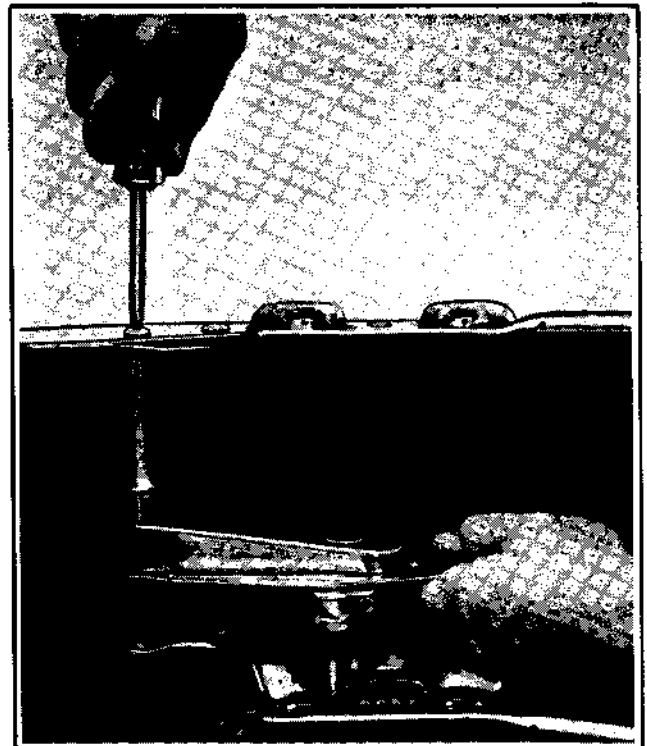

FIGURE 2. PROPER TORQUE METHOD FOR BRACKET MOUNTING SCREWS.
14. When installing new brackets from Kit on inside wall of fender, note that the left side bracket has a special tab for properly routing the brake line. Insert screw through fender and bracket from outside, apply Loctite (Red grade, Part No. 99626-77) to screw thread, attach nuts and torque each of the five nuts on each bracket to 60 in-lbs torque. (See Figure 2.) The use of a lower strength Loctite can result in loosening of the nuts.
Hold the screw head stationary while torquing the nut to prevent gouging of the fender paint under the screw head. (See Figure 2.)